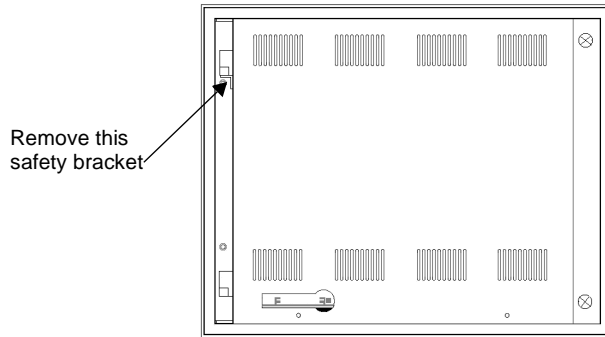

Figure 4: : Removing the Safety Bracket
8. Remove the safety bracket below the upper hinge of the backshell by removing the screw that holds the bracket in place. This bracket is shown in Figure 4 on page 4.